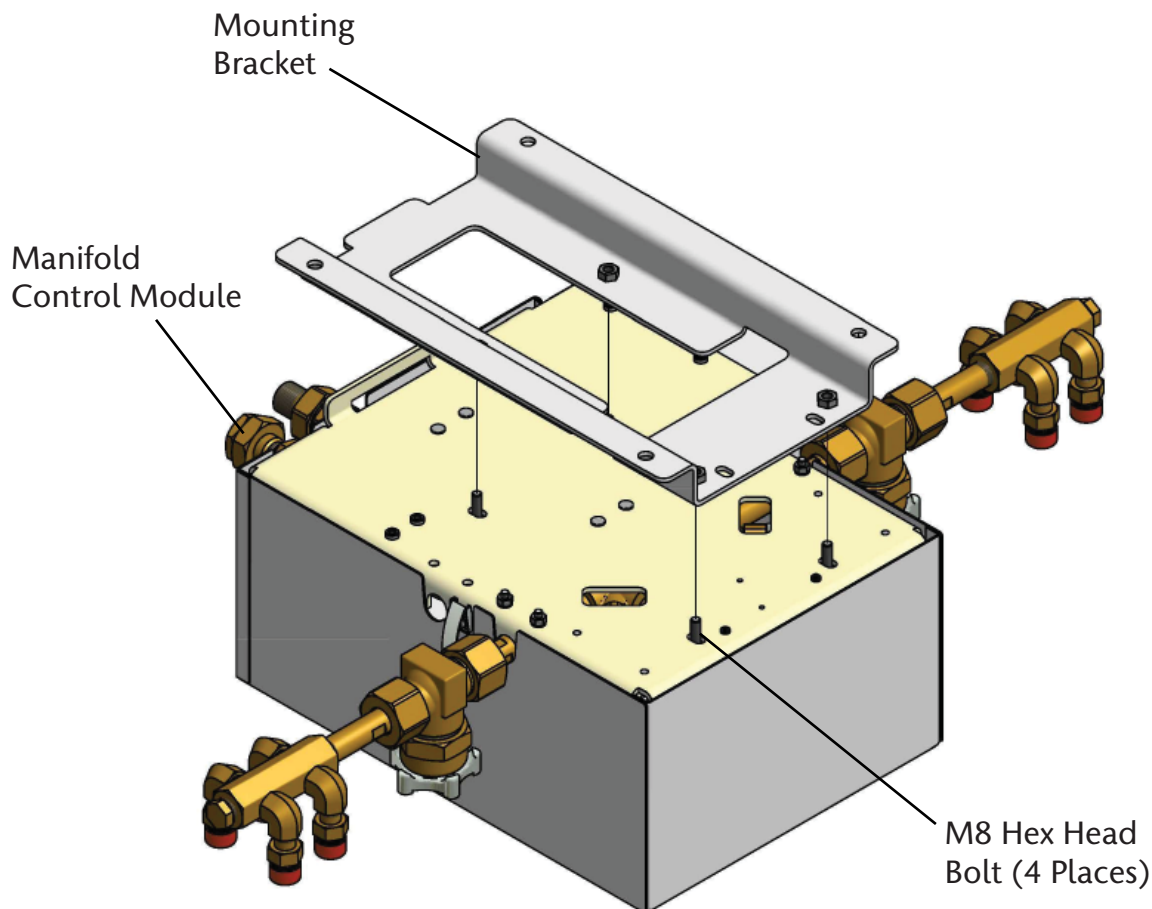

Figure 1
3. Remove the four M8 hex head bolts from the mounting bracket as shown in Figure 1. Lift the manifold away from the mounting bracket and set aside.
3. Remove the four M8 hex head bolts from the mounting bracket as shown in Figure 1.